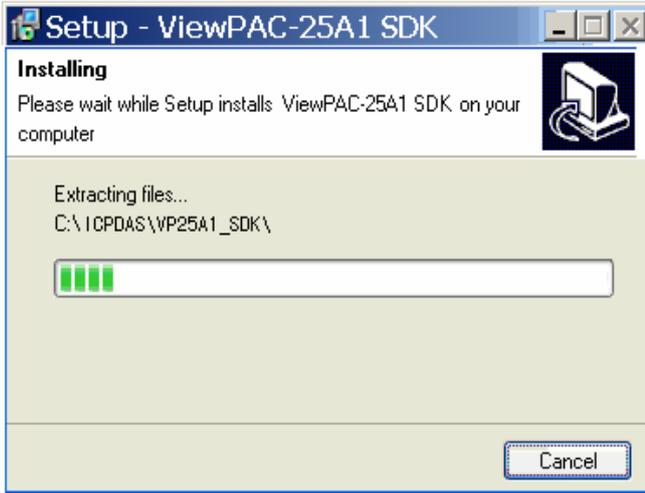

Fig. 2-3
- To starting install the ViewPAC-25A1 SDK, refer to Fig 2-3.